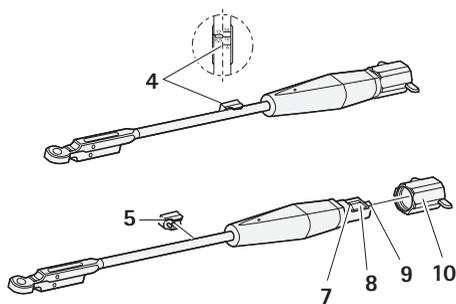

Fig. 1 Dismounting the indicator pin
- ▶ Turn twist cap **10** counterclockwise until scale **4** reads "R" (Release), see Fig. 1.